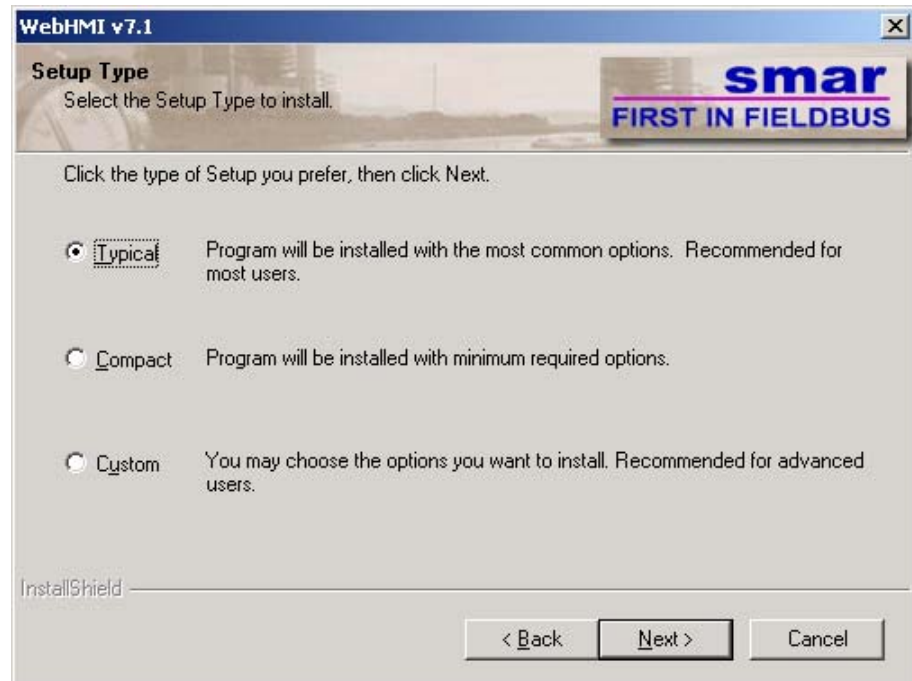

Figure 2.14. Choosing the Installation Type
7. The **Setup Type** dialog box will appear, as shown in **Figure 2.14**. Choose **Typical**, **Compact**, or **Custom** installation. **Typical** installs all WebHMI components. **Compact** installs no sample pages. **Custom** lets you select the specific components to be installed. After making your choice, click the **Next** button to continue.